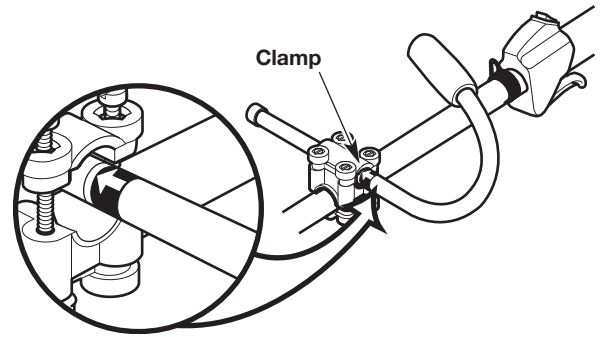

Fig. 6
5. Hold the unit in the operating position (Fig. 22) and slide the handle in or out of the clamp until the arrow/line on the decal touches the clamp (Fig. 6).